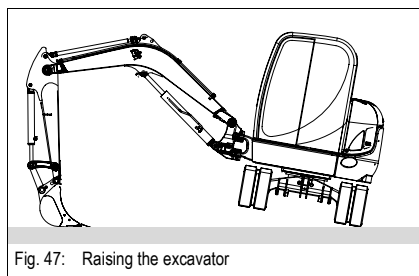

Fig. 47: Raising the excavator
- ☞ Raise the excavator with the boom and the dipper arm as shown in Fig. 47.